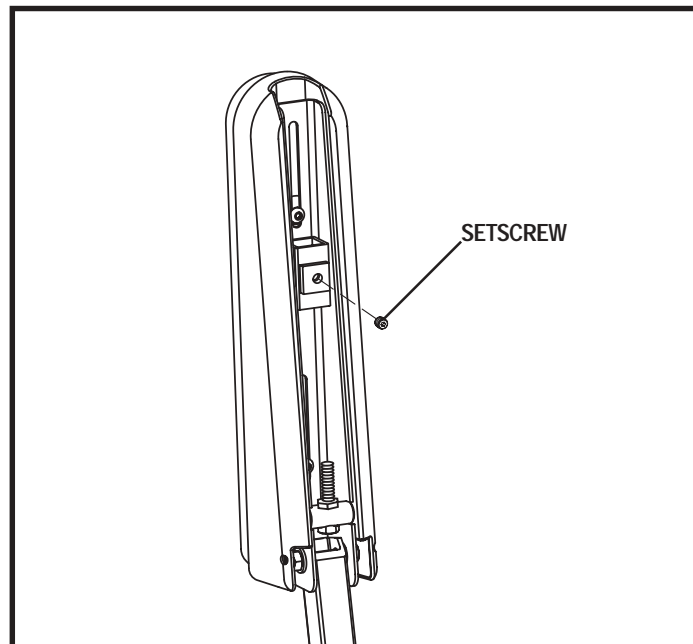

Figure 22. Underside of Armrest
2. Loosen the setscrew on the controller bracket. See figure 22.
5. Loosen the setscrew on the underside of each armrest. See figure 22.